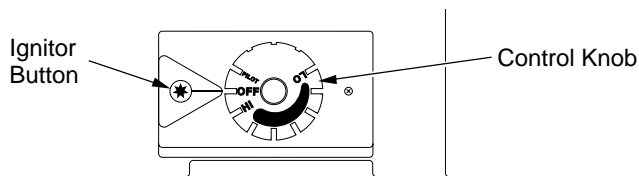

Figure 45 - Control Knob In The OFF Position
- 4. Wait five (5) minutes to clear out any gas. Then smell for gas, including near the floor. If you smell gas, **STOP!** Follow "B" in the safety information above. If you don't smell gas, go to the next step.
- 5. Turn control knob counterclockwise  to the PILOT position. Press in control knob for five (5) seconds (see Figure 45).